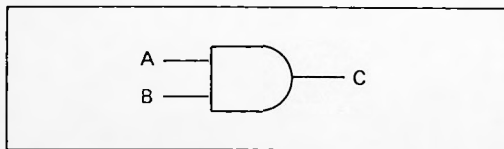

Figure C-1. And Logic Symbol.
- a. **And.** As shown in Figure C-1, the And-gate output (C) is HIGH (+5 Vdc) when all inputs (in this case A & B) are HIGH (+5 Vdc) simultaneously. When any one input or all inputs go LOW (GRD), the And-gate output (C) is LOW (GRD). Therefore, a LOW (GRD) input controls the And gate. See And Truth Table, Table C-1.